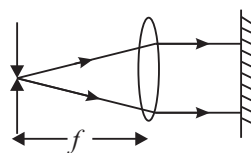

Fig. 14.4
- (viii) If the object pin is placed at the focus of the lens, rays from any point of it will emerge out as parallel beam (Fig. 14.4). Hence if the lens is backed by a plane mirror the rays will retrace their path and hence the real and inverted image of the object pin will be formed at the same position. Thus f can be measured.